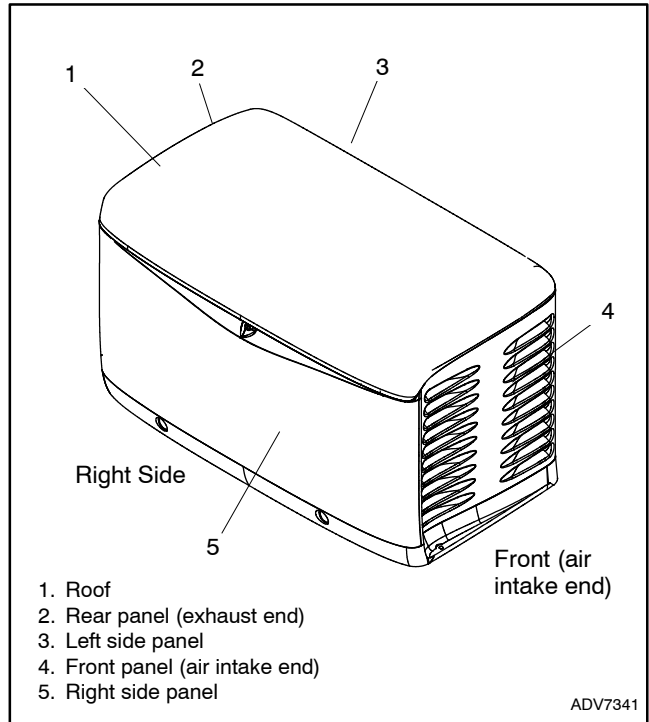

Figure 7-36 Generator Set Enclosure, 14/20RESA(L) or 20RESC(L)
16. Reinstall the enclosure panels in reverse order of removal. See Figure 7-36 and refer to the disassembly instructions, if necessary.